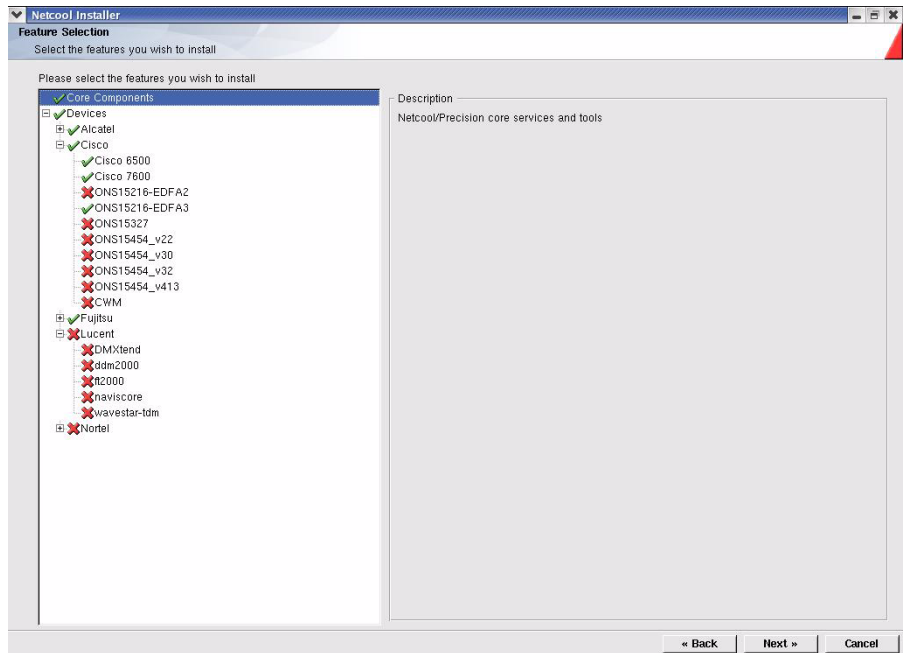

Figure 7. *Netcool Installer Feature Selection window*
6. Select the features you want to install and then click **Next** (Figure 7.)